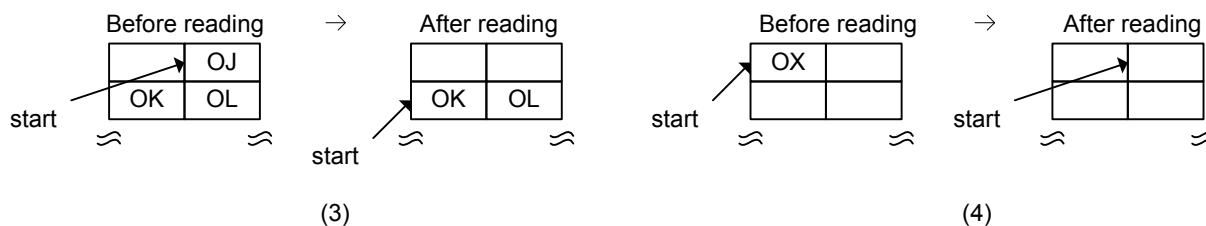

Fig. 1-80 FIFO reading processing (caution required)
Fig. 1-80 (3) shows the situation when word-reading using the FIFO_Rd_0,1 registers from a state having byte boundaries. Indeterminate data is output to High and data J is output to Low. The read pointer increments one byte at a time. Fig. 1-80 (4) shows the operation when word-reading using the FIFO_Rd_0,1 registers from a state in which byte boundaries do not exist but one byte of data remains. Data X is output to High and indeterminate data is output to Low. The read pointer increments one byte at a time.